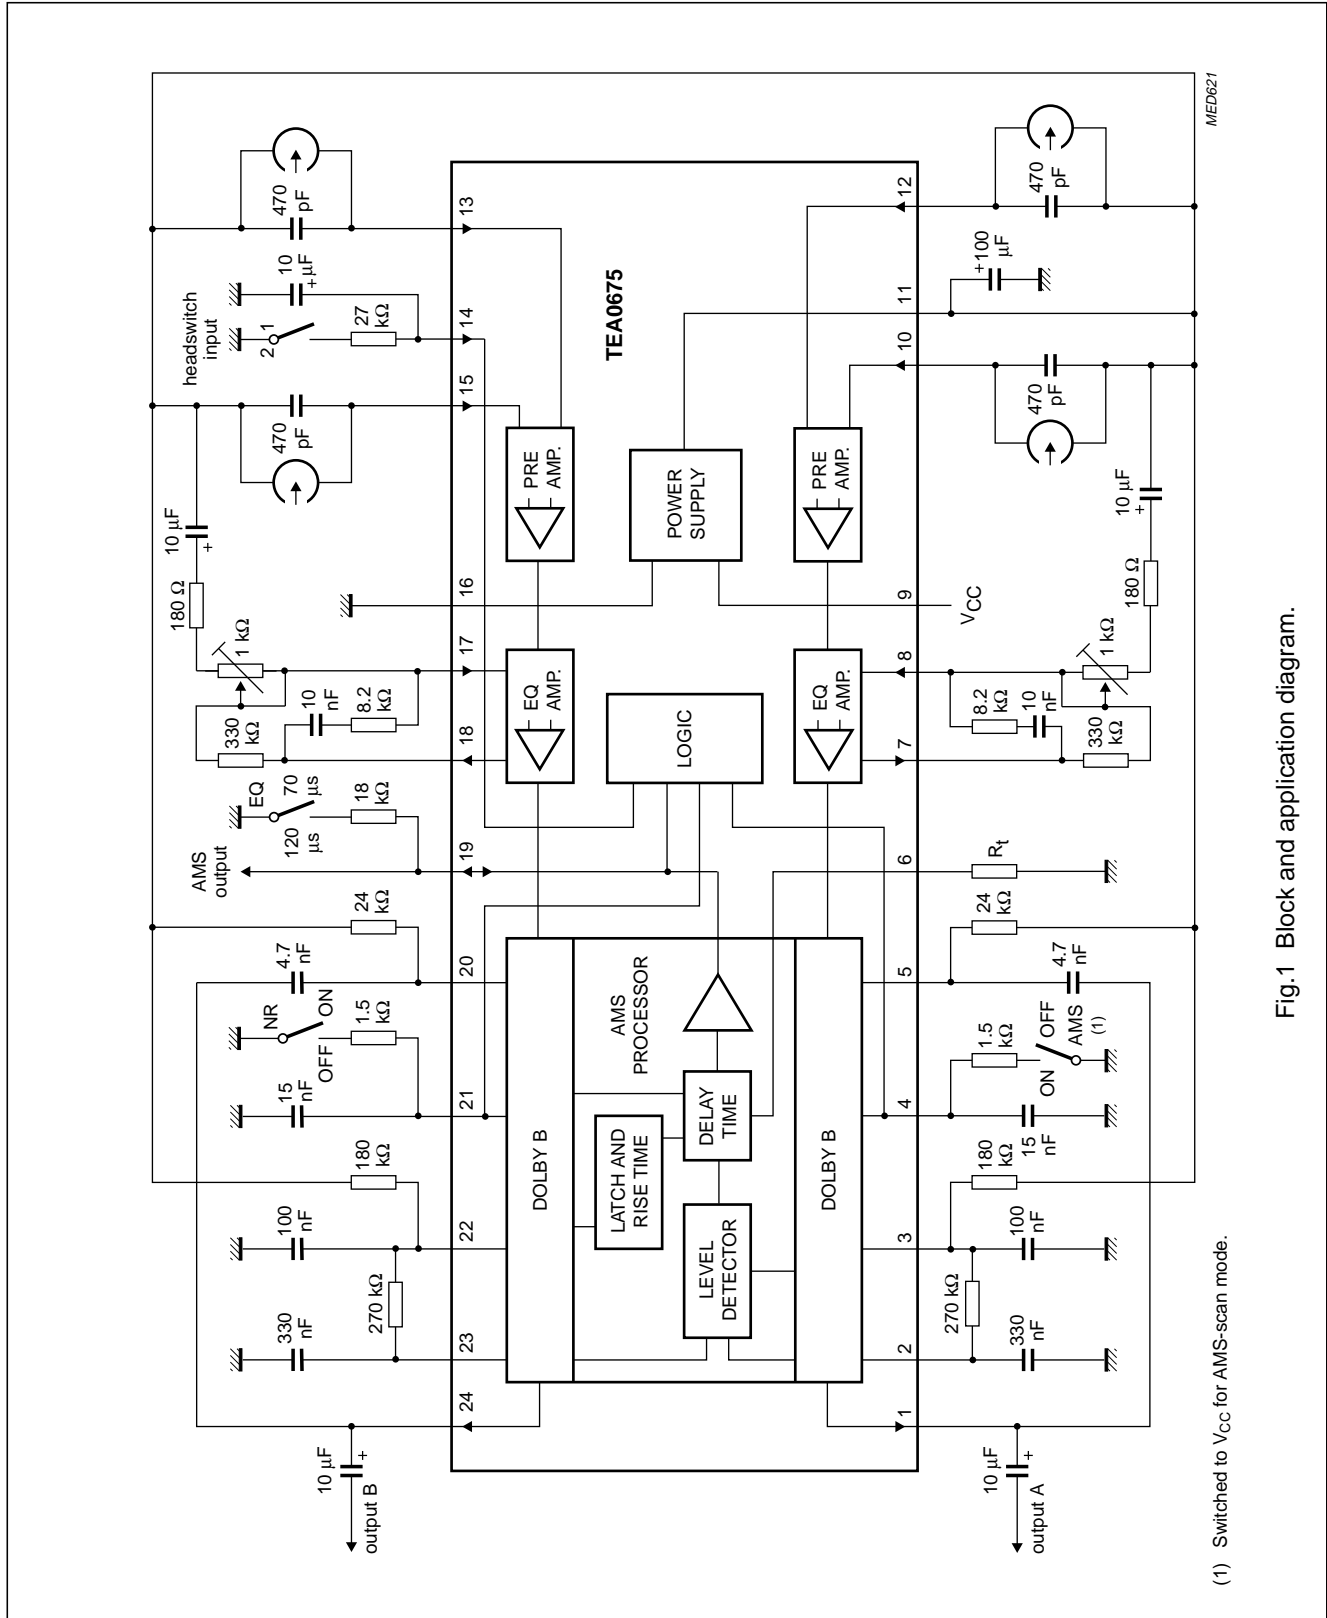

Fig.1 Block and application diagram.
Equalization time constant switching (70 μ s or 120 μ s) is achieved when pin AMSEQ is connected to GND via an 18 k Ω resistor (120 μ s), or left open-circuit (70 μ s). This does not affect the AMS output signal during AMS mode (see Fig.1).
$V_{CC} = 10\text{ V}$; $f = 20\text{ Hz}$ to 20 kHz ; $T_{amb} = 25\text{ °C}$; all levels are referenced to 387.5 mV (RMS) (0 dB) at test point (TP) pin OUTA or OUTB; see Fig.1; NR on/AMS off; EQ switch in the $70\text{ }\mu\text{s}$ position; unless otherwise specified.